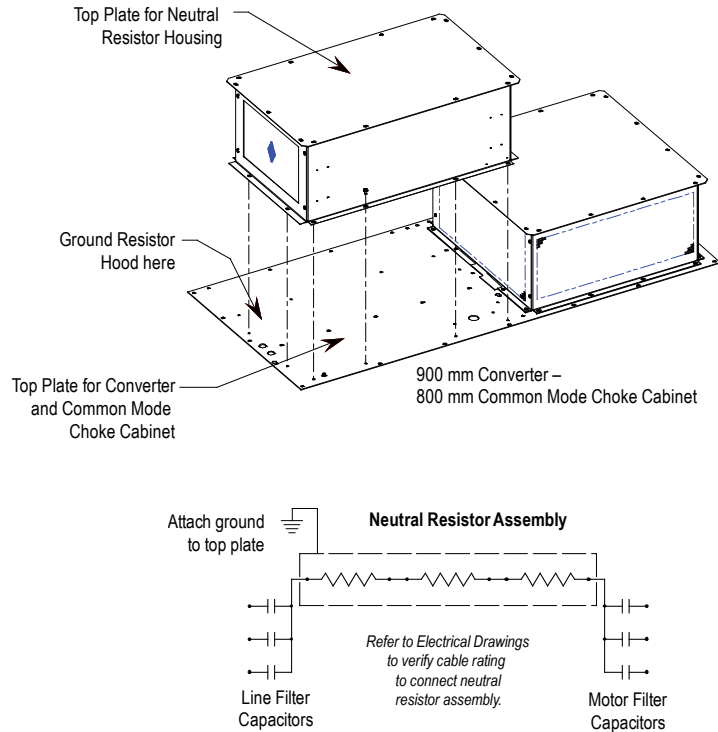

Figure 2.7 – Hood Assembly for Neutral Resistor
1. Locate the resistor assembly on top of the cabinet as shown in Figure 2.7.
4. Connect the resistor wiring and per the electrical diagram provided with the drive, a typical connection diagram is shown in Figure 2.7. Ensure that the resistor wiring is routed through the hole having a plastic bushing to protect the wire insulation. The neutral resistor assembly housing has a ground connection that is to be connected to the top plate of the drive.